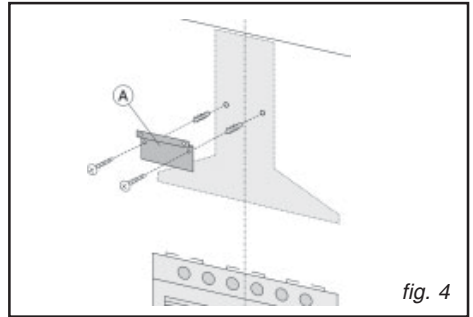

fig. 4
- Fix the metal bracket (A) to the wall using the 2 holes just drilled (fig. 4); the screws for fixing the bracket are provided. Use the 2 cut-out triangles on the bracket to position it exactly along the vertical axis of the hood.